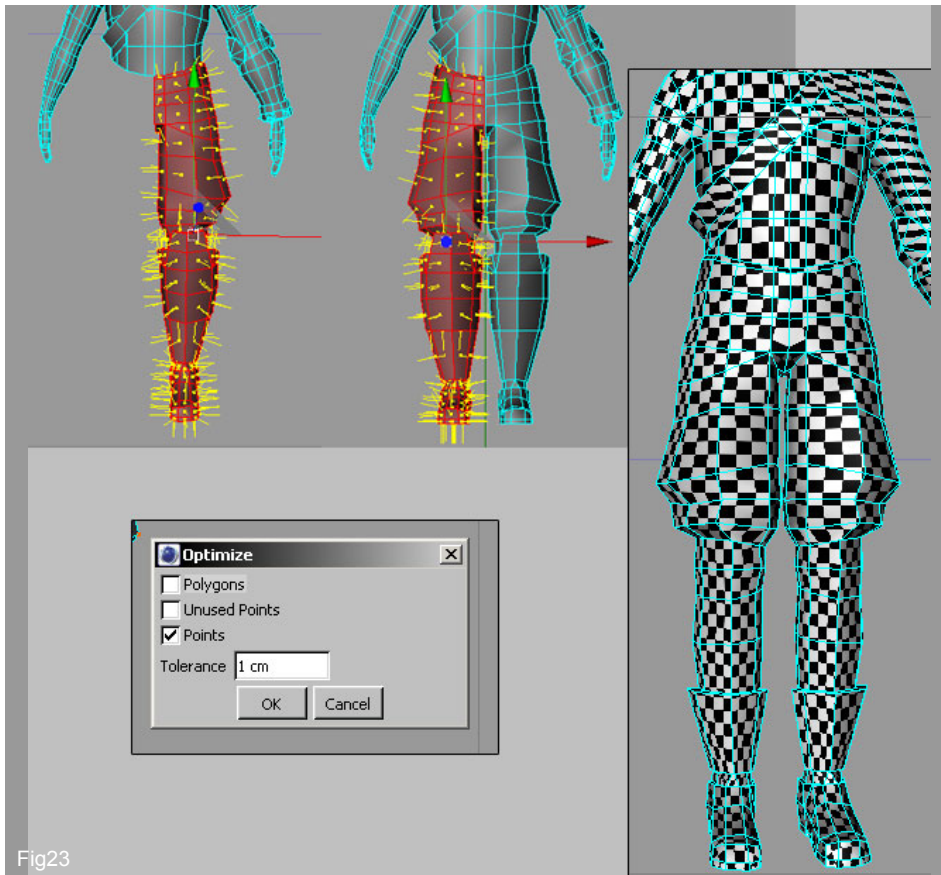

Fig23
23. When the leg is fully unwrapped it is time to copy it over and weld it to the main body. Select so the leg like shown on the top of Fig23 and choose from right mouse menu the Mirror tool. When you choose this tool a line will appear into your view, drag this line over the Y axis. Select then all verts and use the Optimize tool to weld the leg to the body. The hand can also be copied but you may want to map the two arms separately as they are slightly different.